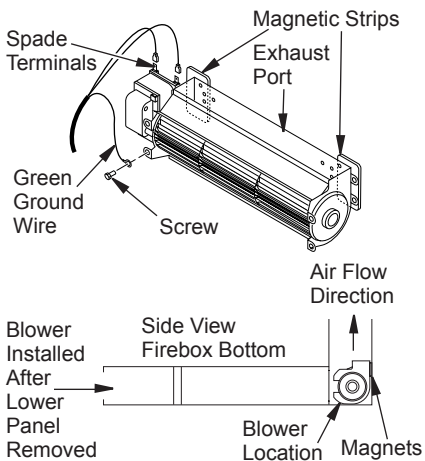

Figure 11 - Blower Model BK
1. Attach the power cord to blower motor by firmly pushing two female terminals at end of power cord onto two spade terminals on blower motor (see Figure 11).
2. Attach green ground wire from power cord to blower housing using screw provided (see Figure 11). Tighten screws securely with a phillips screwdriver.
3. Place blower against lower rear wall of firebox outer wrapper with exhaust port directed upward. Depending on your model, you may have to carefully route the blower assembly past controls and brackets and position blower inside back opening. The blower will be held in position against the back wall by magnets incorporated onto blower housing (see Figure 11).